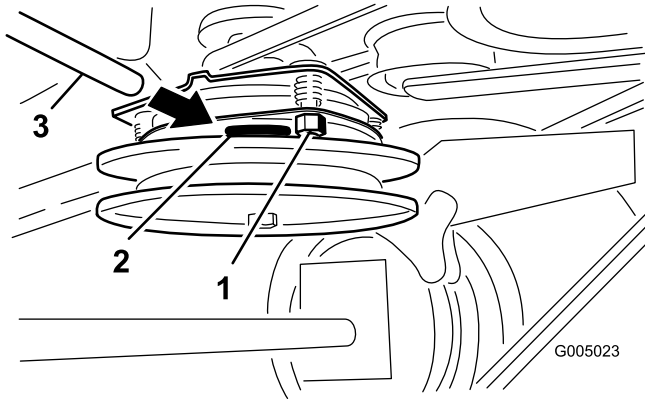

Figure 44
2. Tighten the lock nuts until there is slight binding on the feeler gauge but it can be moved easily within the air gap (Figure 44).